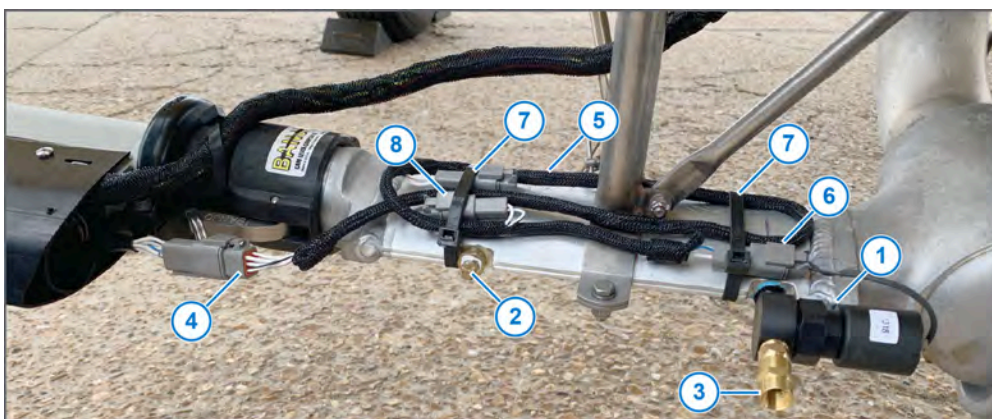

Figure 45: Parts Installation on the Center Boom
3. Install the valves (Figure 45, Item 1) to the desired open ports on the existing center boom.
See Figure 45
4. Plugs (Figure 45, Item 2) must be installed on any unused ports. Those parts are not supplied by CapstanAG.
5. Install the spray nozzles (Figure 45, Item 3).
7. Connect the 6-pin DTM connectors (Figure 45, Item 4) from the center boom harness to the 6-pin DTM connectors from the left and right center VCM harnesses.
8. Route the center boom harness along the center boom (Figure 45, Item 5) and connect to the nozzle valve connectors (Figure 45, Item 6).
9. Make sure that the harness is attached to the center boom as necessary using cable ties (Figure 45, Item 7).
10. Install dust plugs (Figure 45, Item 8) on any unused 2-pin DTM connectors.